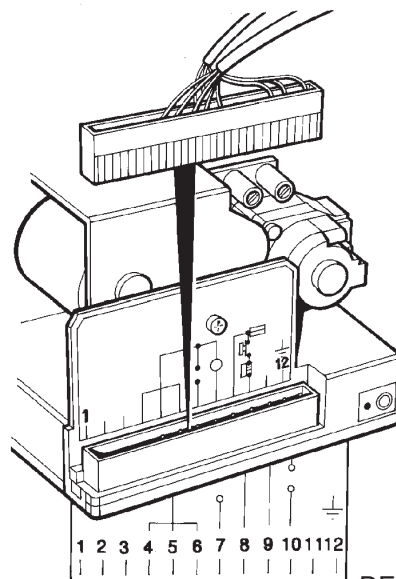

Fig. 18
2. Check the 230v supply on terminal 10 and 11 at control box base, this will also determine if the thermostats are calling for heat. (See Fig. 18).